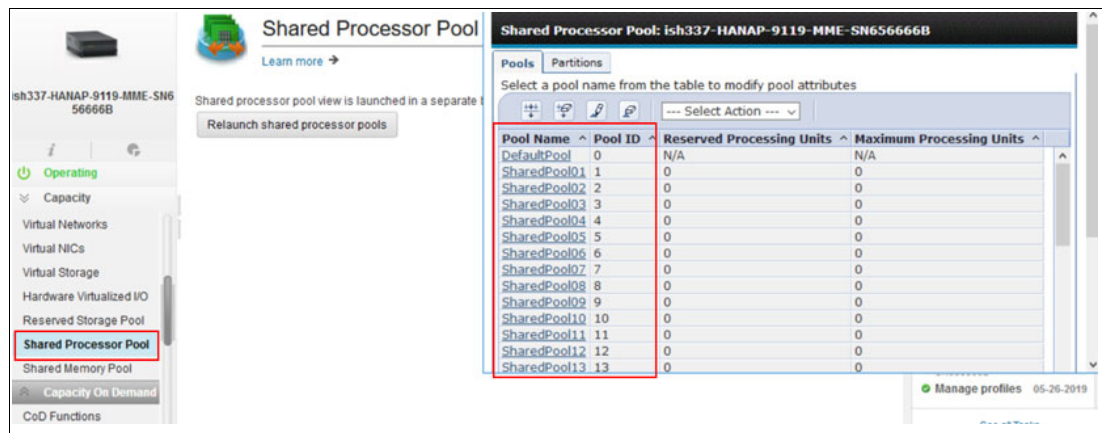

Figure 3-3 Configuring the shared processor pool
1. To configure an SPP, click **Shared Processor Pool** from the HMC task list on the left, as shown in Figure 3-3. A new window opens and shows the configuration of the available SPPs.
- As shown in Figure 3-3 on page 23, initially all processors (processing units) are available in the DefaultPool. To create another SPP, for example, SharedPool01, processing units must be assigned, as shown in Figure 3-4.